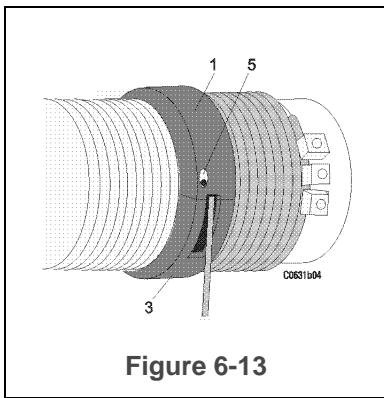

Figure 6-13
- Place the second half-ring (3) with the long rope exit window on the rope drum so that the rope exits from the drum groove through the window straight and without kinking. The second half-ring must lie flush against the first (see Figure 6-13).
- Bolt the two half-rings together with pressure screws and bolts (5) (see Figure 6-13).